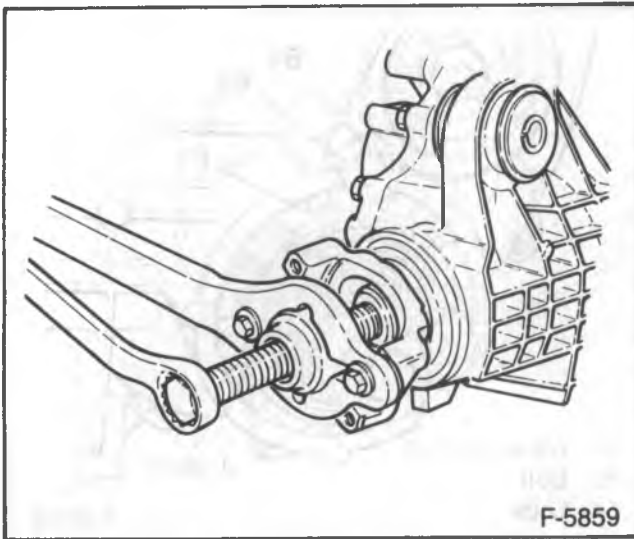

Figure 12—Removing the Pinion Flange
25. Flat Washer (45).
26. Flange (44) with deflector (43). Use J 8614-01 (figure 12).